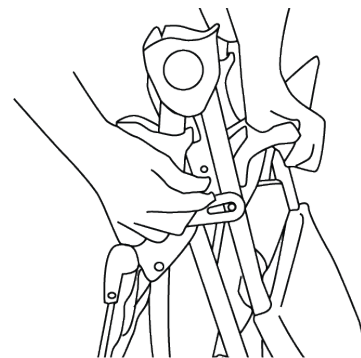

Fig. 12
20. Place the stroller on the ground with all three wheels touching the ground. Release the locking folding latch, which is located on the right side. (Fig. 12)